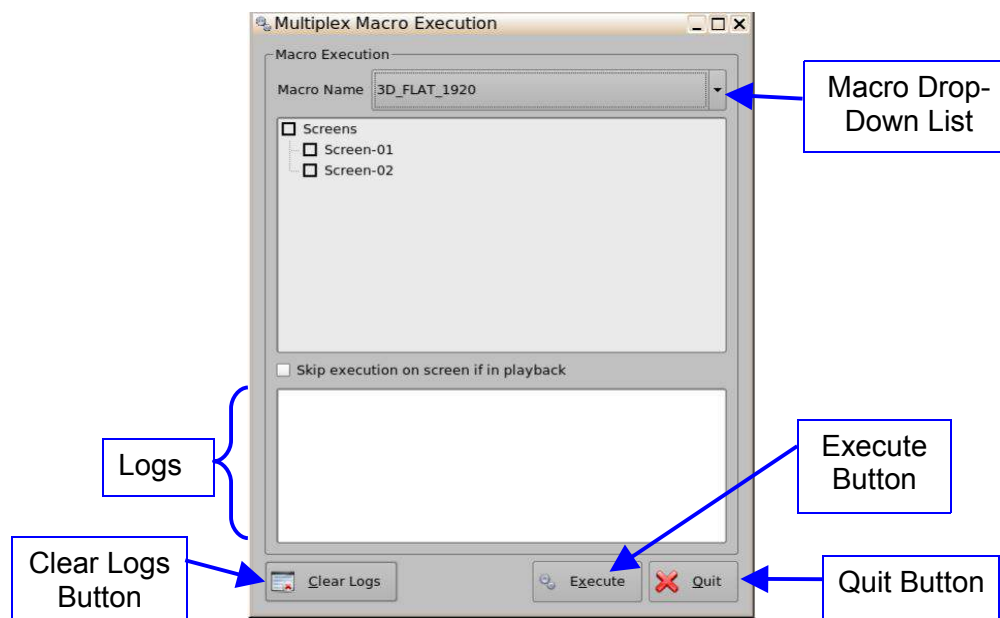

Figure 103: Multiplex Macro Execution
- The following window will appear (Figure 103):